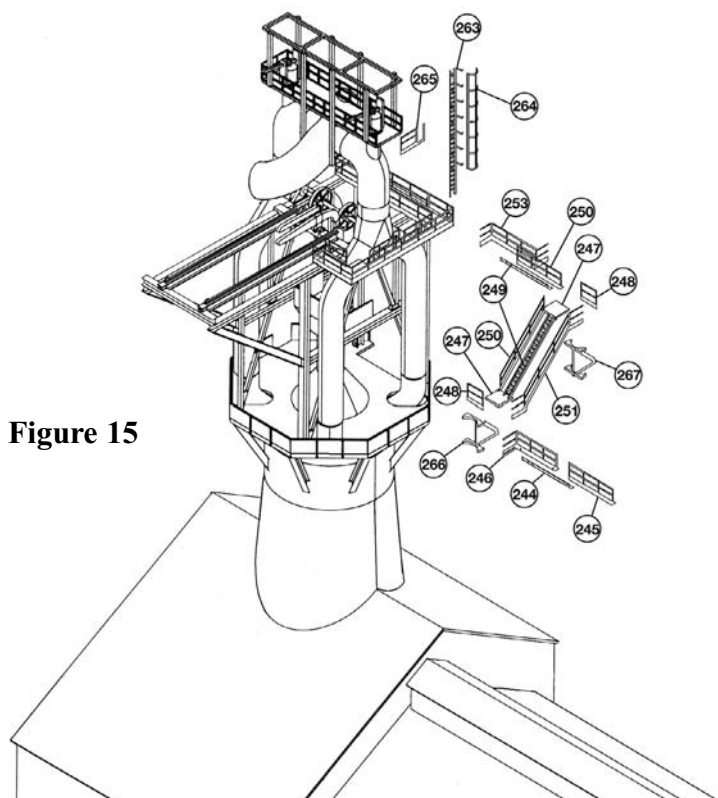

Figure 15
55. Glue the railings (240, 241, 242, 243) around the edge of the upper elevator walkway (133). Note: Bend railing #243 at the groove on the back to follow the edge of the walkway. Then glue this to the elevator below the top set of doors. Also, when both the stoves and furnace are glued together, glue the other end of the walkway to the bell platform, in the opening between the railings.
56. Glue the railings (255, 256, 257, 258, 259, 260, 261, 262) in place around the trolley support walkway (254). Then glue this to the tops of the support I-beams with the back edge running along the rear brace #65. See figure 15 for another view of the walkway in place.